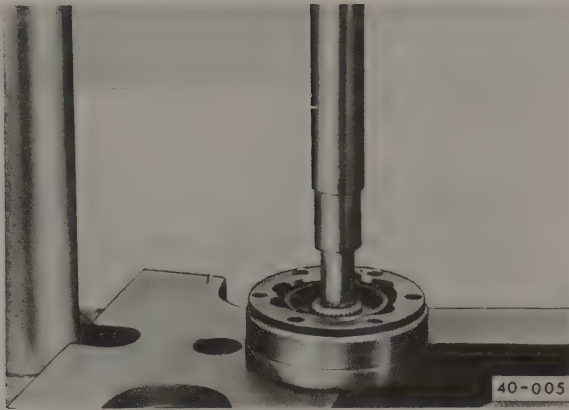

Fig. 5-9. Driving axle shaft out of inner CV joint with punch (drift) and thrust plate (support).
3. Support the hub of the CV joint and press the axle shaft out of the joint, as shown in Fig. 5-9.